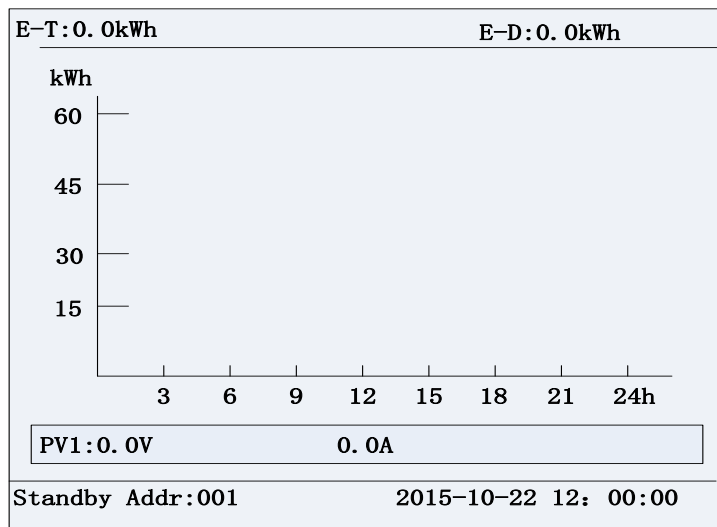

Figure 5-8 Normal Operation Status
11. When the LCD screen shows the normal operation status (Figure 5-8) and the "RUN" light on the LED panel is illuminated, this is an indication that the grid connection and power generation are successful.